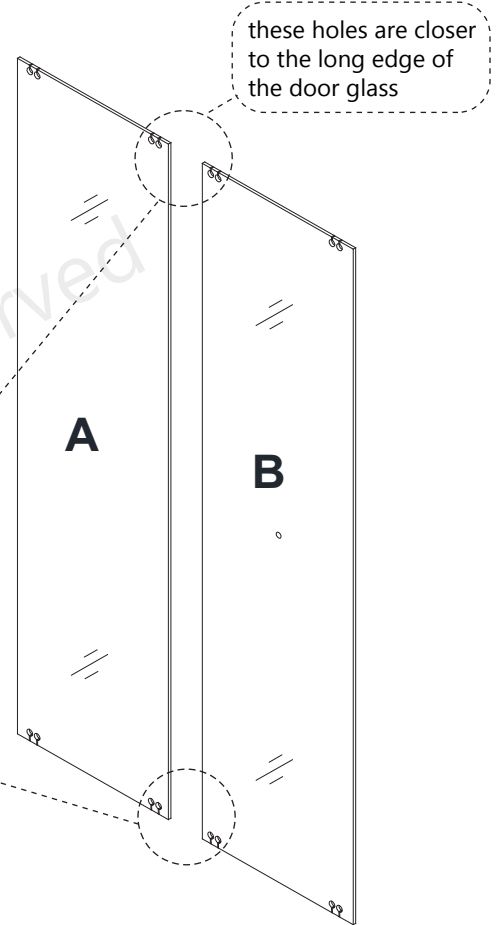

Fig 1
1. Carefully place **Door Glass A (#04)** and **Door Glass B (#05)** on a flat surface. **(Fig 1)**
NOTE: The distance from the long edge of the glass to the paired holes is different. Align the edges where the holes are closer as shown in **Fig 1**.